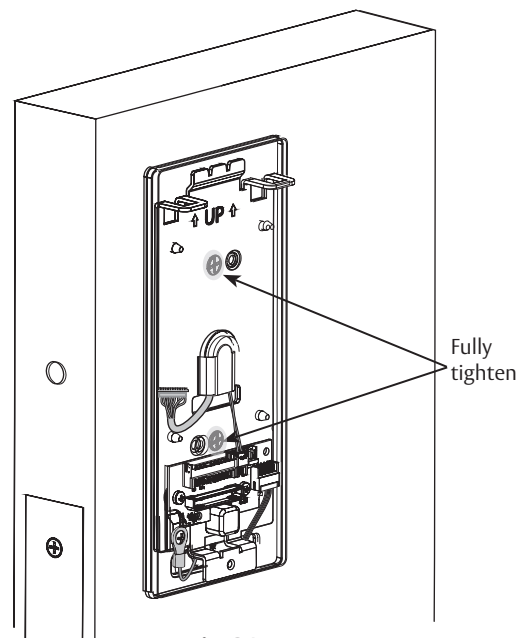

Fig. 21
- Secure mounting assembly while ensuring proper alignment of outside reader and tighten two (2) through-bolts on inside of door to secure reader. (Figure 21)